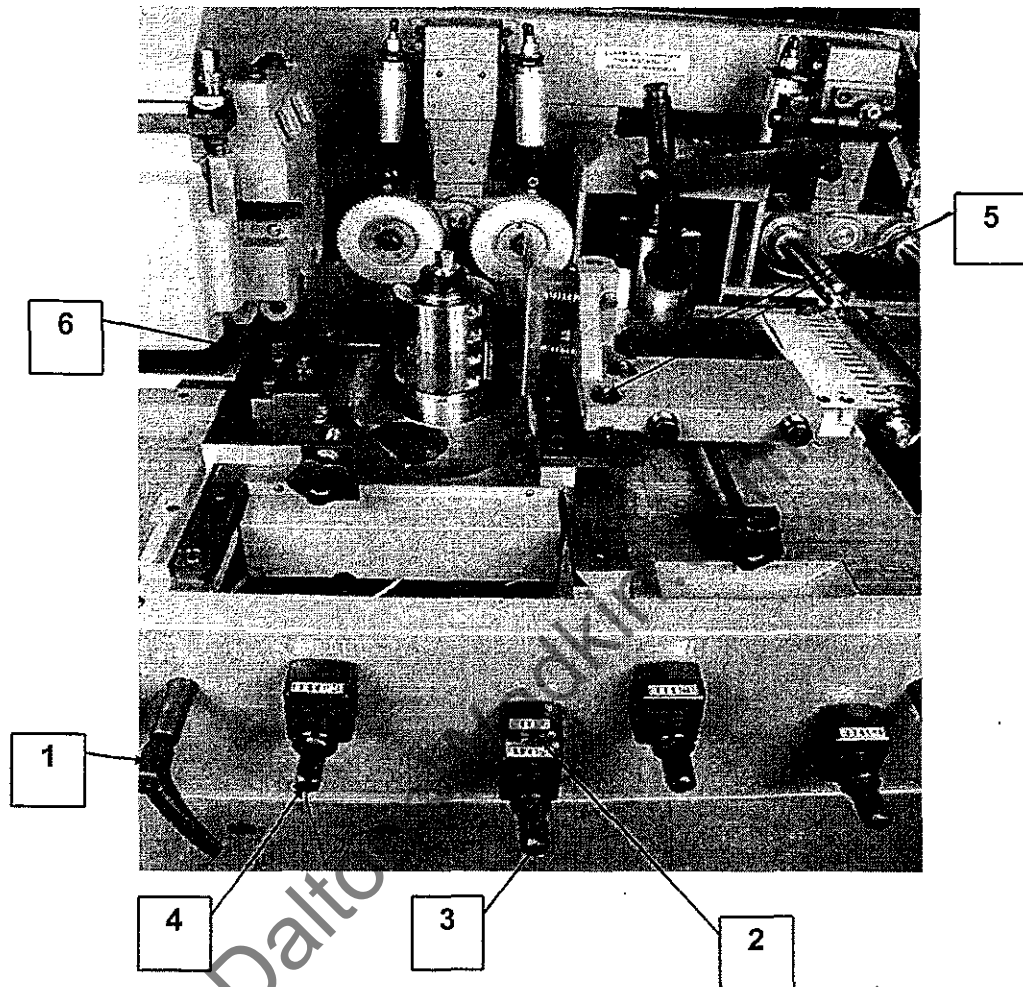

Figure 5.4
5.4 Setting Near Side Head (Figure 5.4)